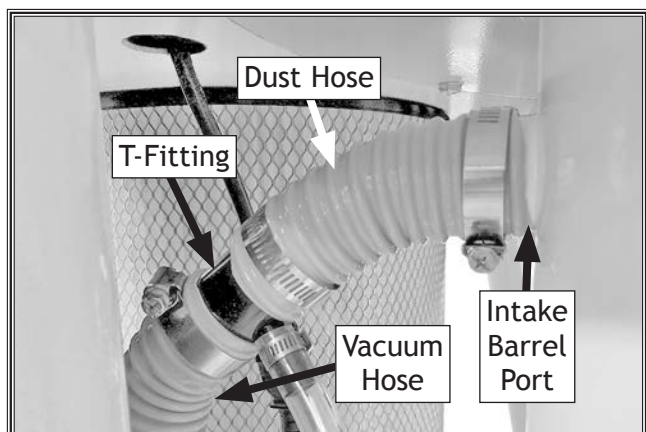

Figure 8. Dust hose placed over intake barrel port and vacuum hose over T-fitting port.
8. Slide other end of dust hose from **Step 4** over intake barrel port (see **Figure 8**).
9. Slide vacuum hose over other port on T-fitting (see **Figure 8**).